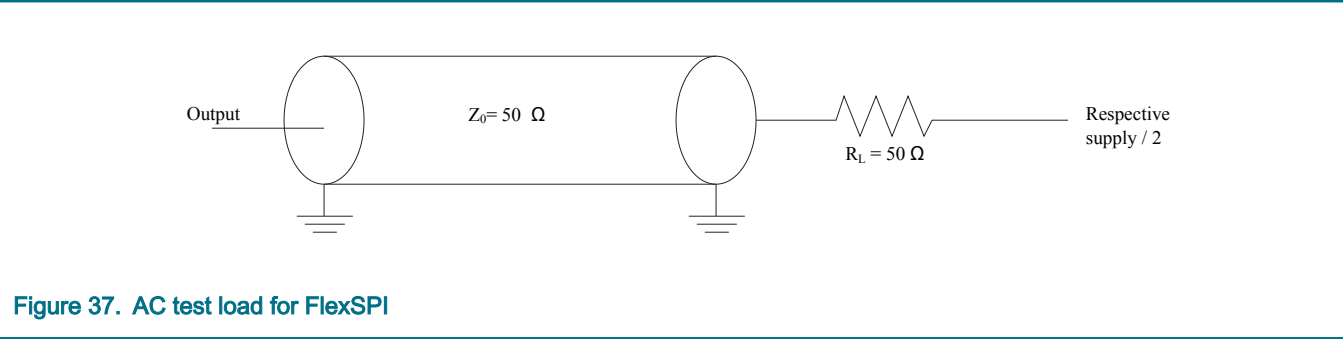
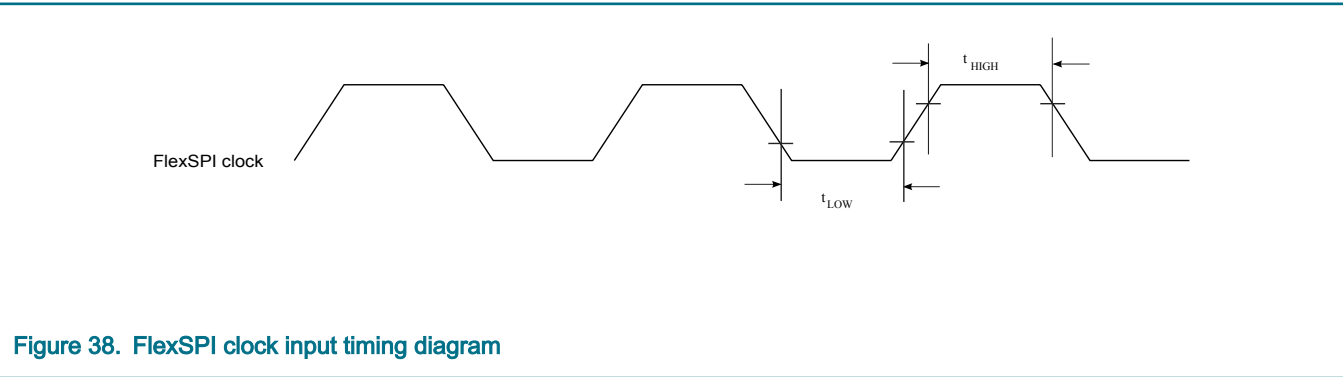
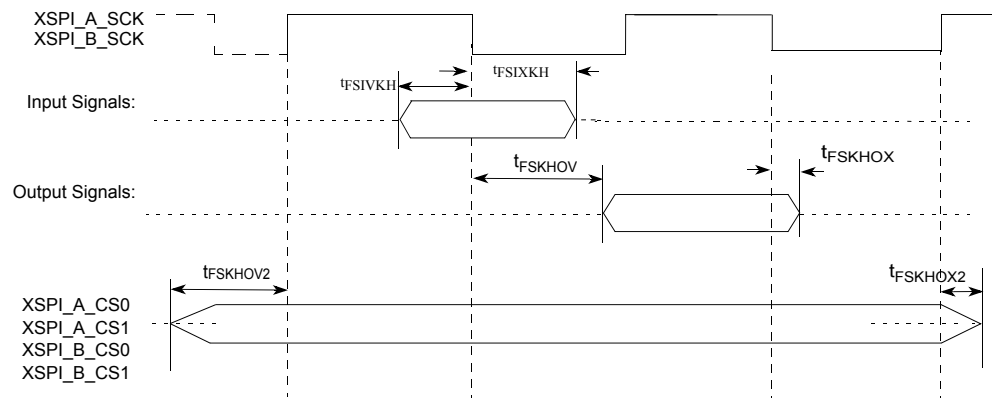
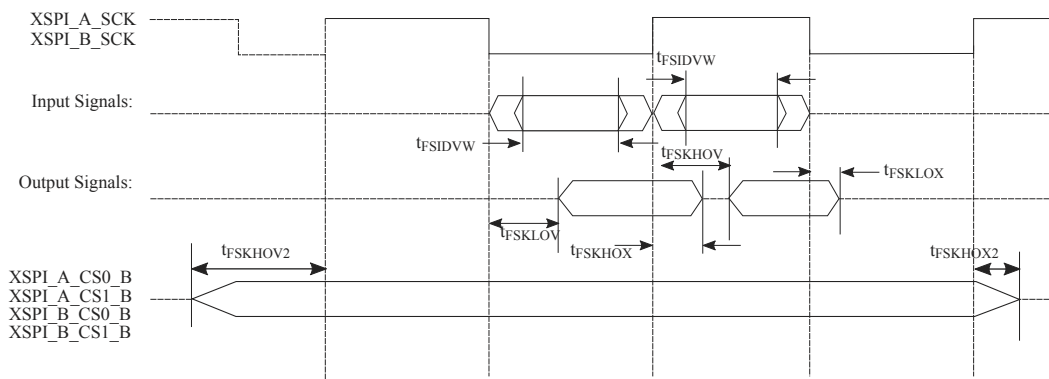

Figure 37. AC test load for FlexSPI
Figure 38. FlexSPI clock input timing diagram
Figure 39. FlexSPI SDR mode AC timing diagram
Figure 40. FlexSPI DDR mode 1 and 2 AC timing diagram
2. See Figure 37.
3. See Figure 38.
4. See Figure 39.
1. Refer the FLSHxyCR1 QorIQ LX2160ARM for more details, where x: A or B, y: 1 or 2 2. See Figure 37 . 3. See Figure 38 . 4. See Figure 39 . 5. T = FlexSPI clock period
1. Refer the FLSHxyCR1 QorIQ LX2160ARM for more details, where x: A or B, y: 1 or 2 2. For DDR, Unit Interval (UI) is half of period. For example, 5 ns for 100 MHz 3. See "Data Learning Feature" section in QorIQ LXxxxxARM for details 4. See Figure 37 . 5. See Figure 38 . 6. See Figure 40 . 7. T = FlexSPI clock period
4. See Figure 40.